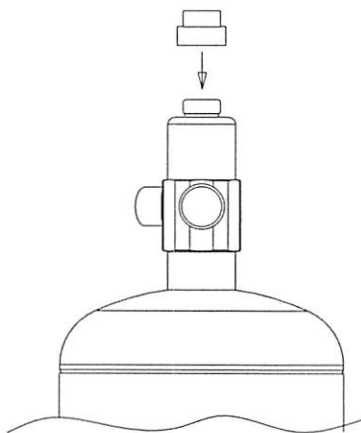

FIGURE 4
2. Remove actuation port protector cap from the valve assembly and install the pneumatic actuator; hand tighten. See Figure 4.